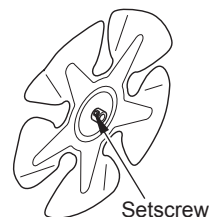

Figure 7 - Setscrew Location
- Use hex wrench to loosen set screw which holds fan to motor shaft (see Figure 7). Remove fan. Be careful not to damage the fan blade pitch.